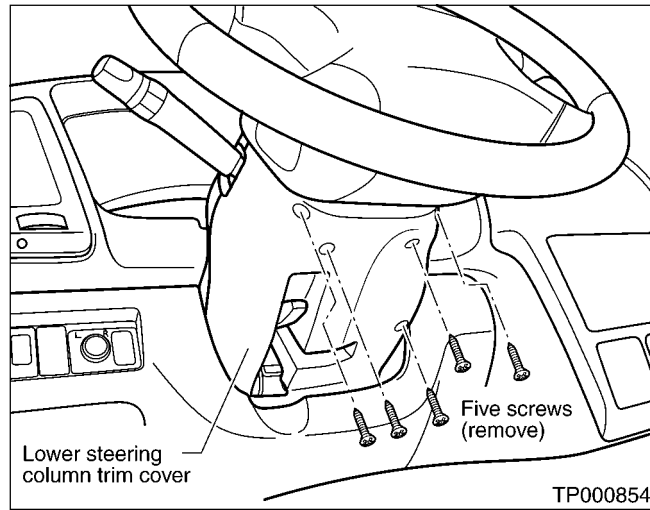

Figure 1
1. Remove five screws from the lower steering column trim cover (see Figure 1).